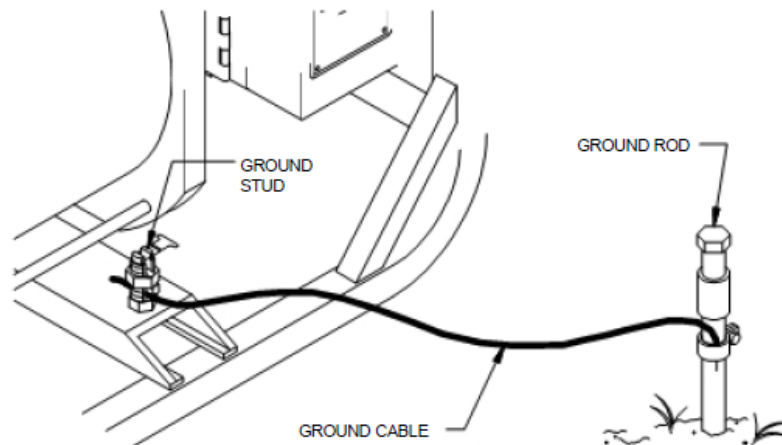

Figure 2-2. Grounding Connections (Typical Installation)
- (3) Disconnect ground cable (Figure 2-2) and remove ground rods.
- (4) Secure all generator set access doors and panels.
- (5) For initial set up after movement, refer to paragraph 2.7 for assembly and preparation for use.